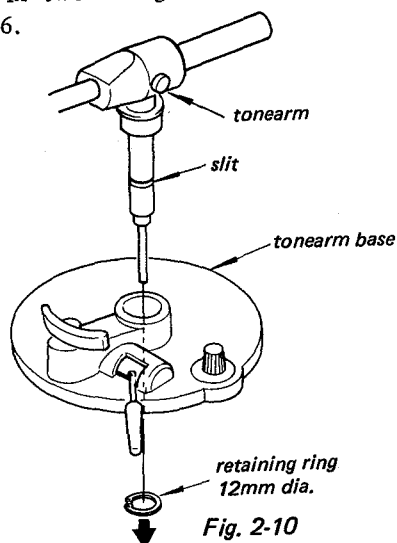

Fig. 2-10
2. Remove the 12mm dia. retaining ring for taking off the tonearm as shown in Fig. 2-10.